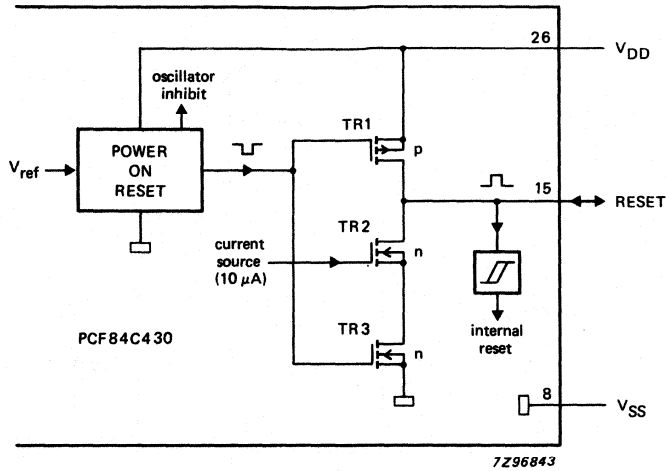

Fig. 21 Power-on-reset configuration.
1. If  $V_{DD}$  can be switched with a fast rise time i.e.  $V_{DD}$  reaches its minimum operating value (corresponding to the selected oscillator frequency) before the RESET signal ( $t_D$ ) has finished, then no extra components are required (see Fig. 21 and 22). Note that the first instruction is executed after the oscillator start-up time plus 1866 clock periods have elapsed.